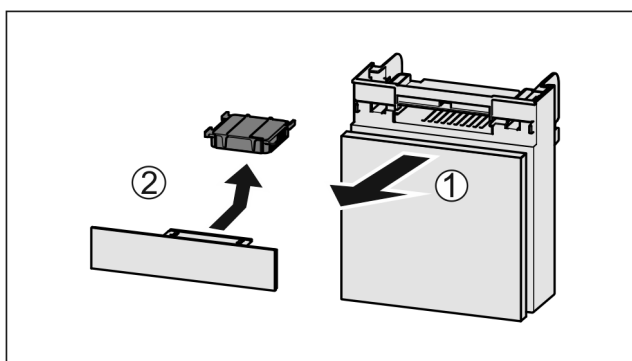

Fig. 58
- Pull out the compartment Fig. 58 (1).
- Remove the carbon filter Fig. 58 (2).